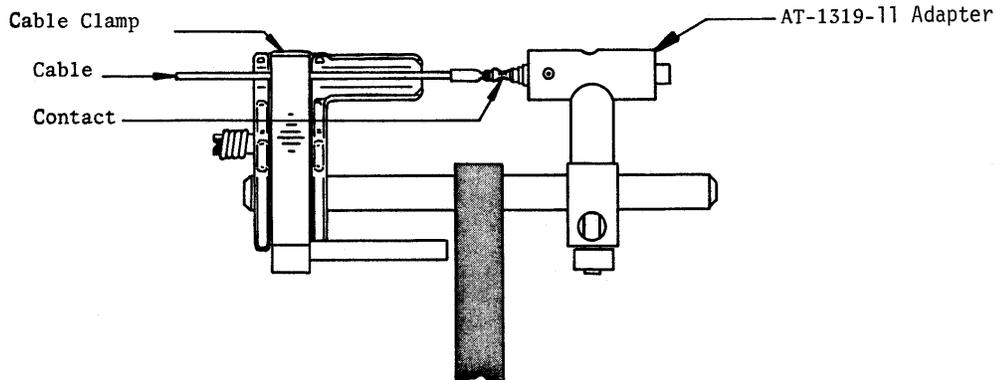

Figure 8
5.4.2.2 Insert the contact/cable assembly into the appropriate end of the AT-1319-11 adapter or AD-1508 repair holding fixture as shown in Figure 8 or 9.